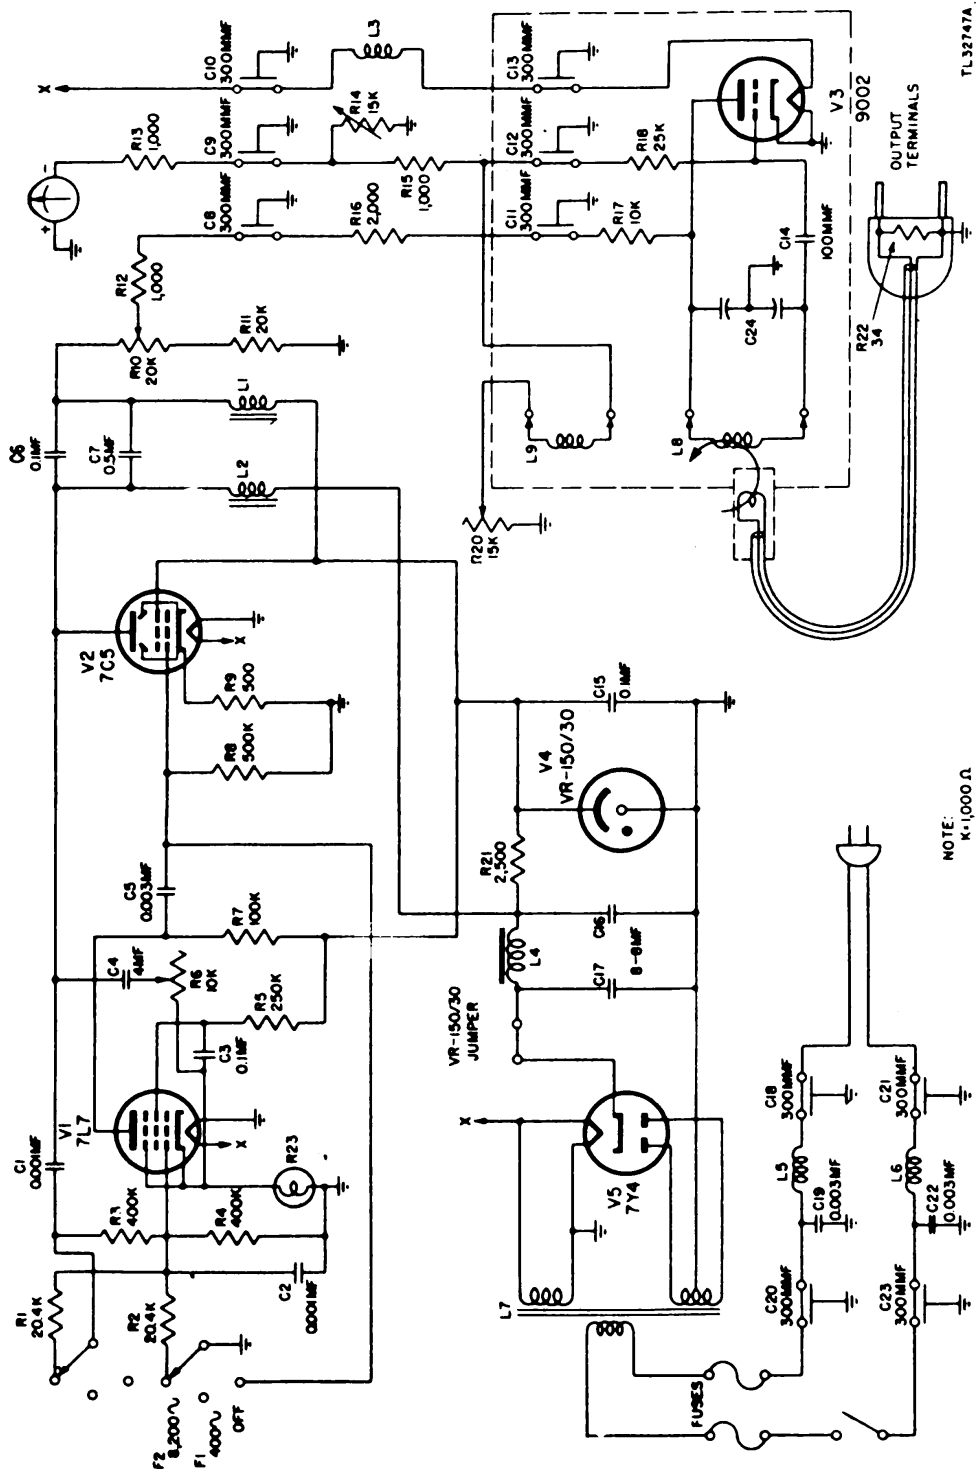

Figure 38. Signal Generator TS-343/U, schematic diagram.
48. SIGNAL GENERATOR TS-343/U (fig. 38).